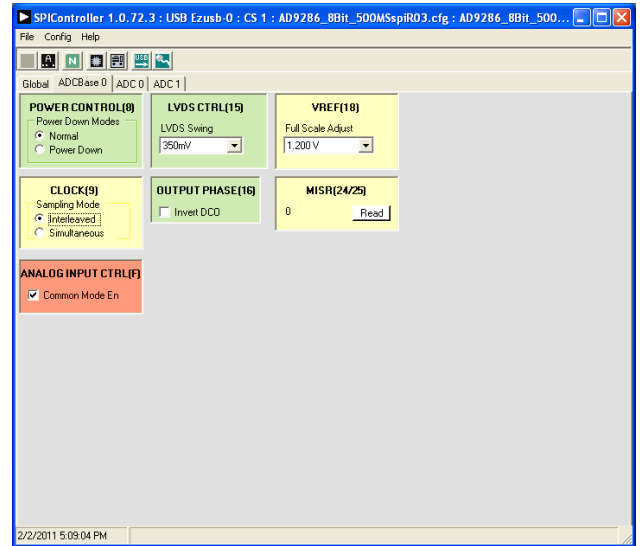
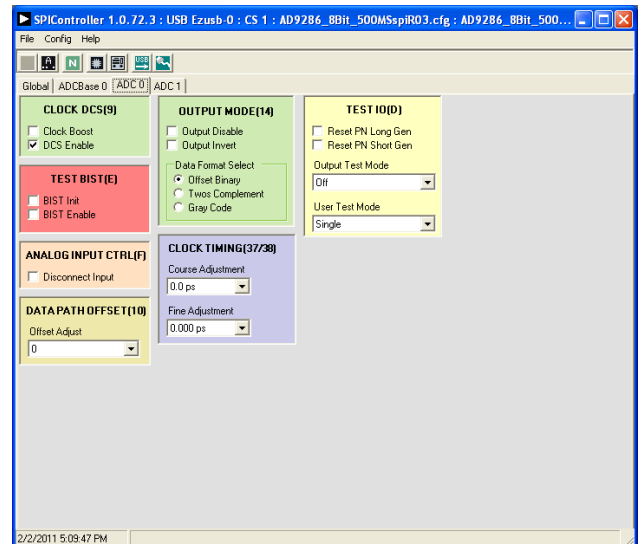

Figure 9. SPIController, ADC Base0
Figure 10. SPIController, ADC 0 Page
3. In the **ADCBase 0** tab of the **SPIController** window, you can access all global register settings (see Figure 9). See the AD9286 data sheet; the AN-878 Application Note, *High Speed ADC SPI Control Software*; and the AN-877 Application Note, *Interfacing to High Speed ADCs via SPI*, for additional information.
4. Note that other settings can be changed on the **ADCBase 0** page (see Figure 9) and the **ADC 0** and **ADC 1** pages (see Figure 10) to set up the part in the desired mode. The **ADCBase 0** page settings affect the entire part, whereas the settings on the **ADC 0** and **ADC 1** pages affect the selected channel only. See the AD9286 data sheet; the AN-878 Application Note, *High Speed ADC SPI Control Software*; and the AN-877 Application Note, *Interfacing to High Speed ADCs via SPI*, for additional information on the available settings.